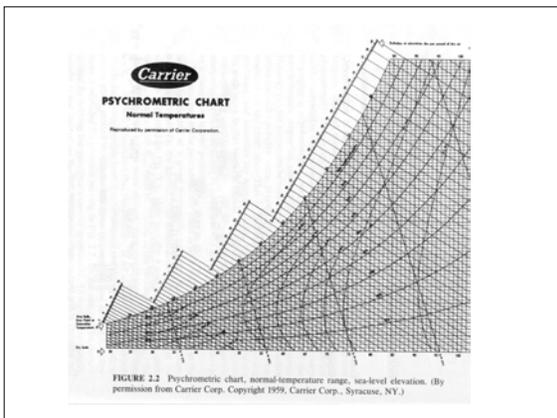

FIGURE 2.2 Psychrometric chart, normal-temperature range, sea-level elevation. (By permission from Carrier Corp., Copyright 1959, Carrier Corp., Syracuse, NY.)
- A psychrometric chart plotted at standard barometric pressure and normal temperatures is provided for problem solving in Fig. 2.2 (p. 20 of your book)